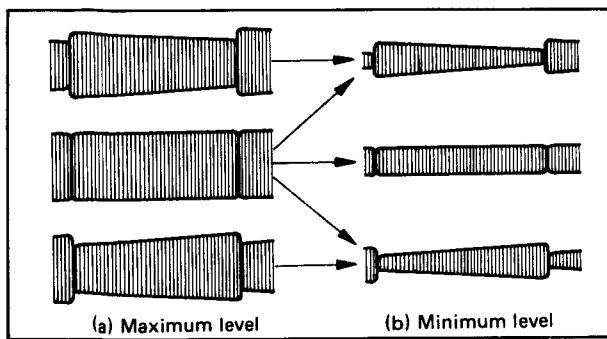

Fig. 4-52 Correct waveform
4. Vary the Tracking control from maximum to minimum FM output. The waveform variation should be nearly parallel as shown in Fig. 4-52. If not, repeat section 4.9.2 and 4.9.3.